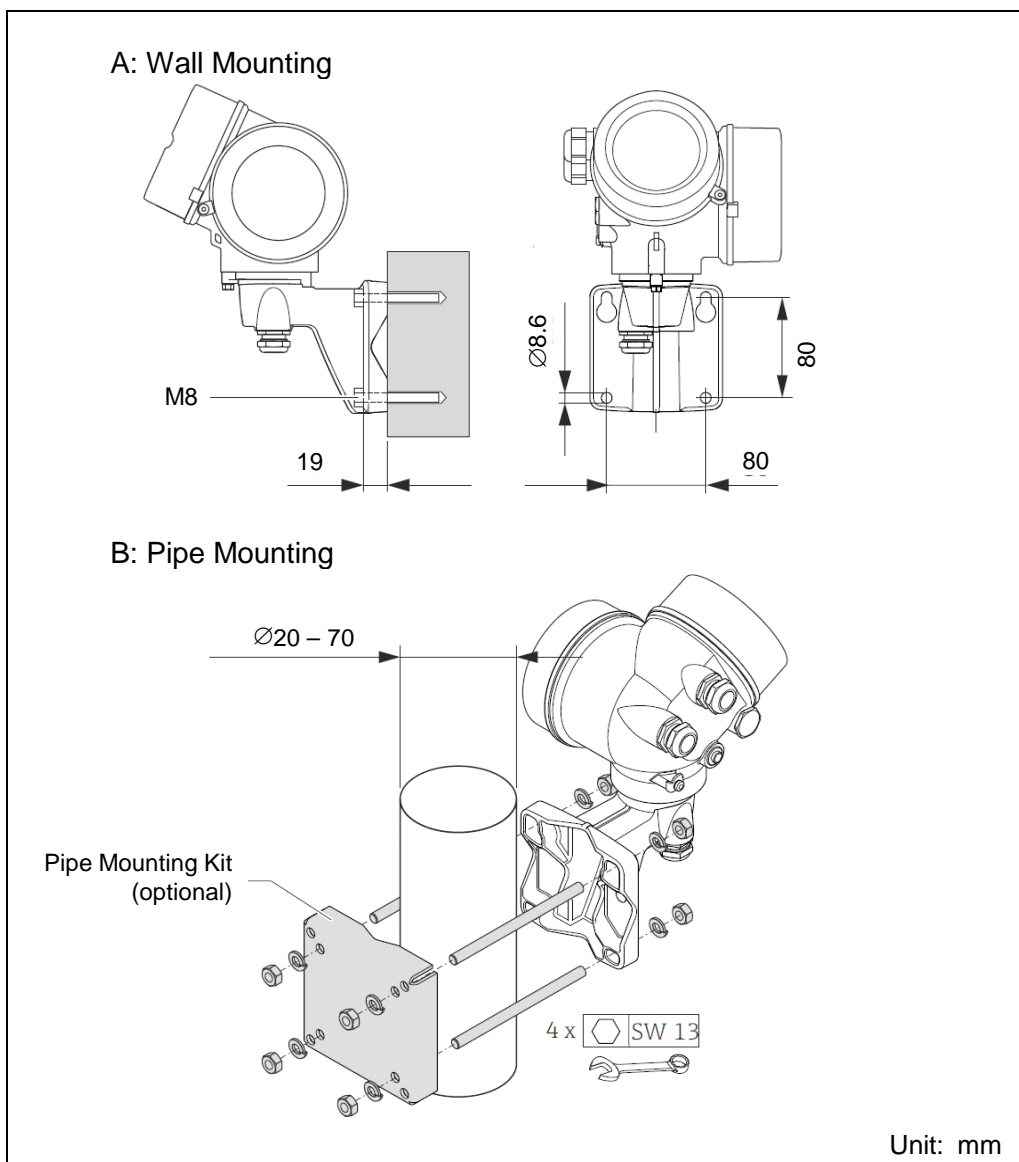

Figure 10
- Wall mounting (Fig. 10.A)
- Pipe mounting (with optional pipe mounting kit) (Fig. 10.B)